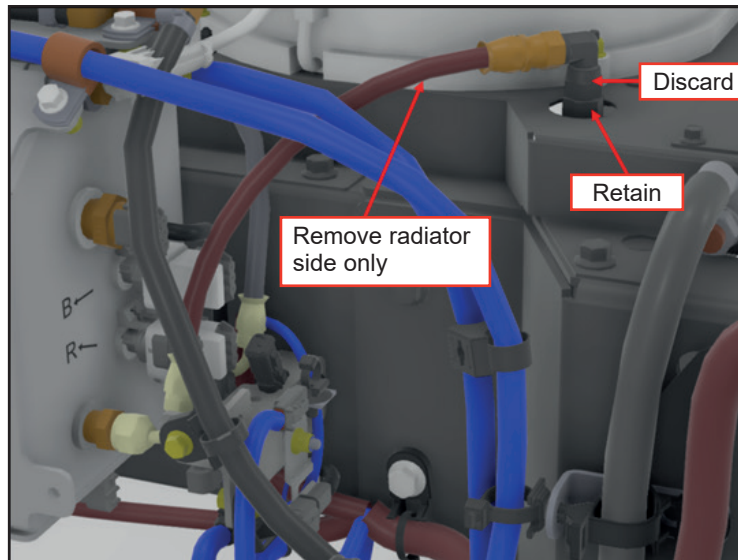

Figure 2 - Removal of Radiator Inlet Vent Hose
1.6. Remove the radiator inlet vent hose on the radiator side only. Discard the elbow adaptor fitting. (see figure 2).